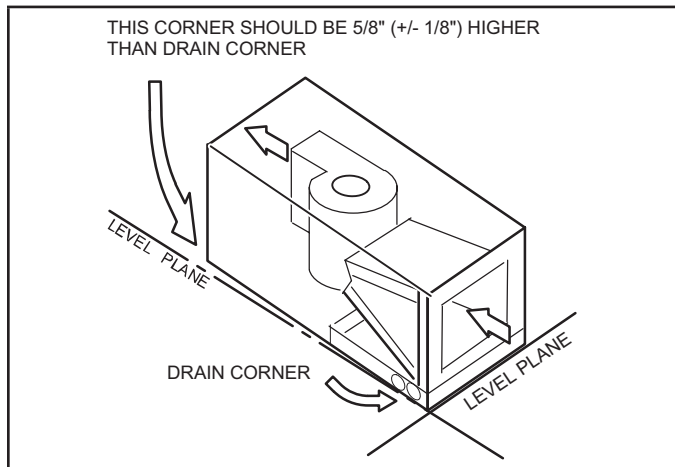

FIGURE 11. Sloping the Unit for Proper Drainage
- 3 - Set unit so that it is sloped toward the upflow drain pan end of the unit and level from front to back of unit (see FIGURE 11).
Make sure the unit is sloped (similar to the slope shown in FIGURE 11) so that the drain pan will empty completely without water standing in the pan.